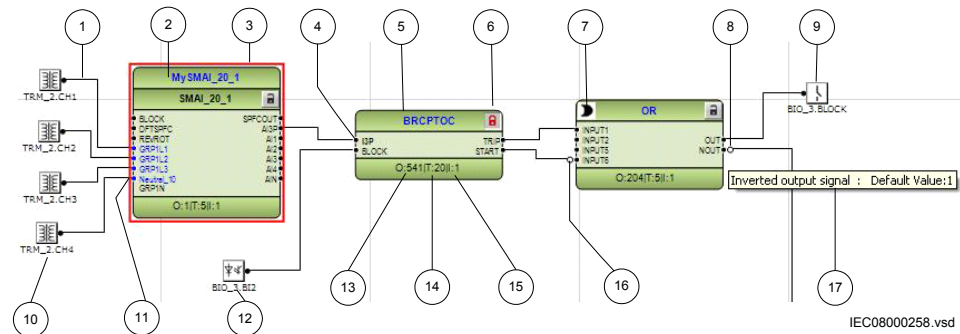

Figure 32: ACT: Function block overview
- Function blocks are the main elements of an application configuration. They are designed for a various number of functions and organized in type groups. The different function block types are shown in the Object Types View. Figure 32 presents an overview of the main parts that are relevant for function blocks.